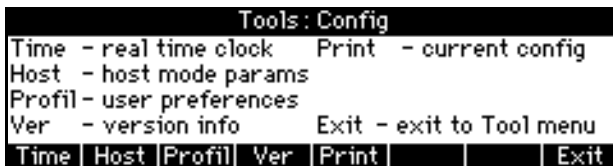

Figure F-14 Tools: Config Menu
- From the Tools menu select **Config** to display the Tools: Config menu shown in Figure F-14.